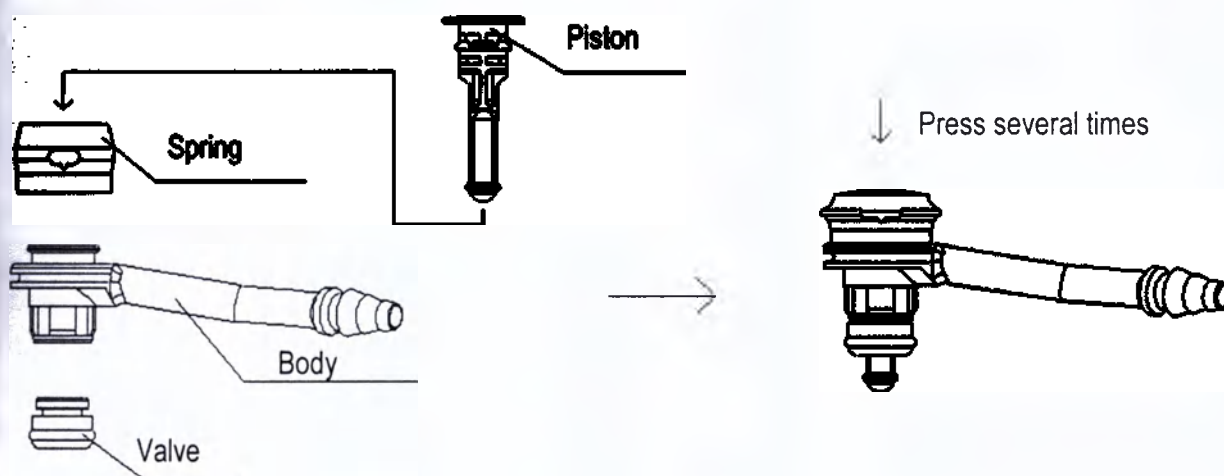

Figure 1. Connect the exhaust valve to the nasopharyngolaryngoscope
- Insert the exhaust valve into the nasopharyngolaryngoscope port, give consideration to the direction of the valve body. Press the valve with your finger to fix it with the click. (see Figure 1).